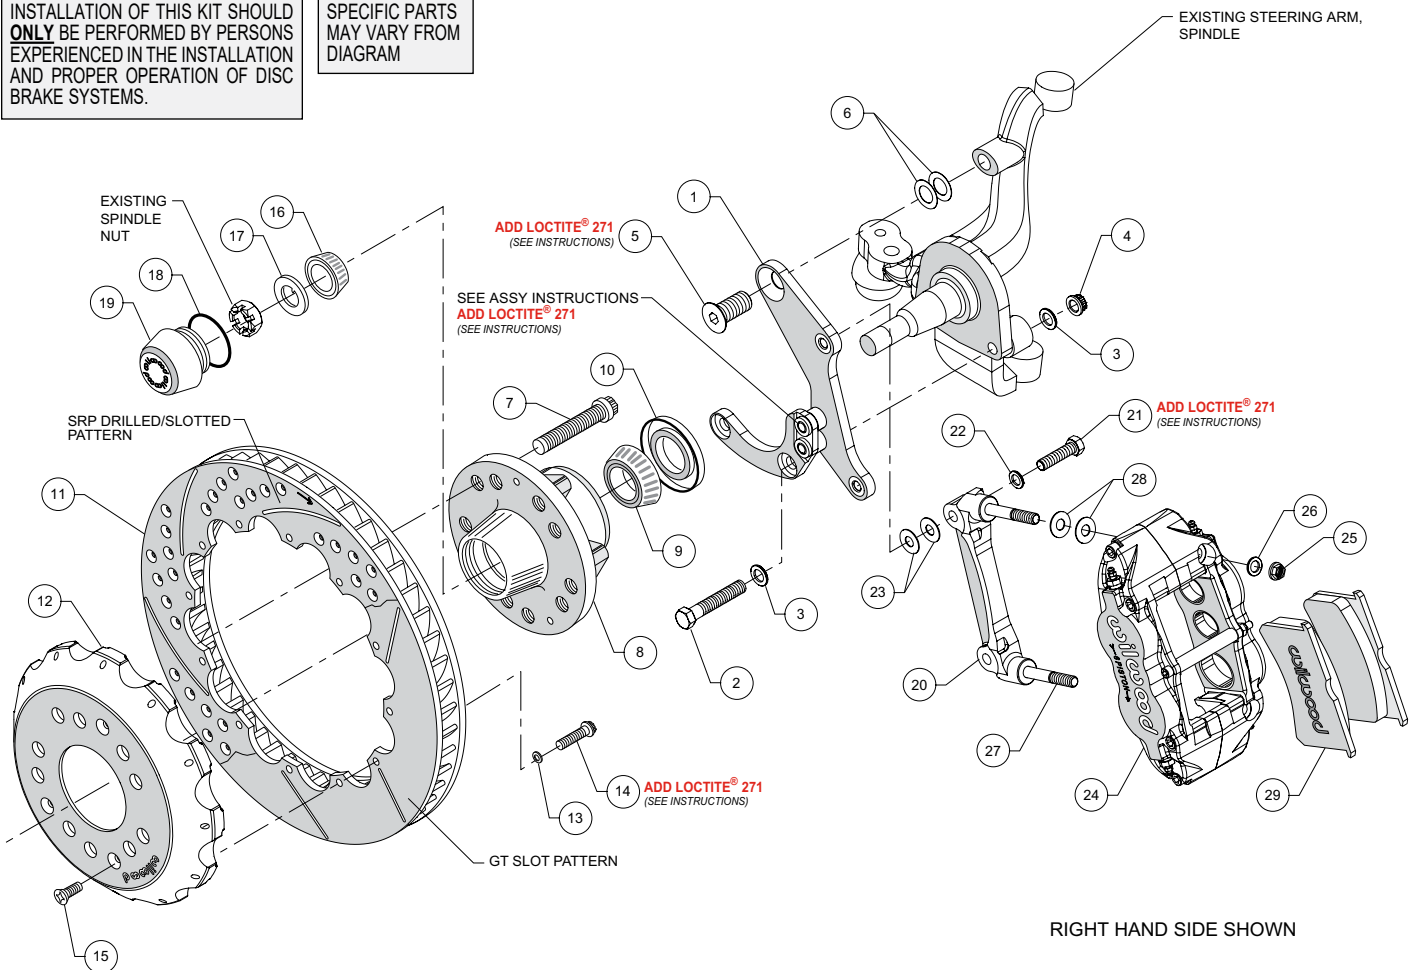
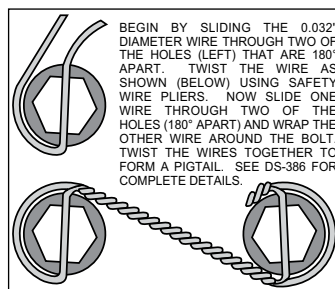
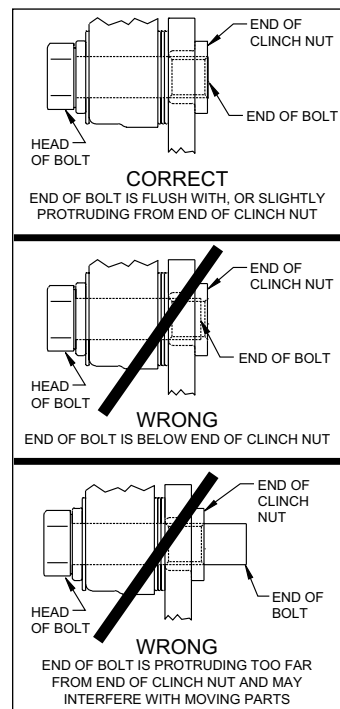

Figure 1. Typical Installation Configuration
Figure 3. Safety Wire Diagram
Figure 4. Clinch Nut Engagement Diagram
Assembly Instructions (numbers in parenthesis refer to the parts list and Figure 1 on the preceding pages): **CAUTION:** All mounting bolts must fully engage clinch nuts. Be sure to check that all bolts are either flush or protruding through flanged side of clinch nut after shimming, Figure 4.
- The spindle bracket (1) has been assembled at the factory for alignment purposes. Loosen the two bolts that secure the brackets together so that the bolts are hand tight only. This will enable the bracket assembly to be adjusted to accommodate various spindle tolerances during assembly. Align bracket with the two lower holes on the spindle face and attach using bolts (2), washers (3), and secure using nuts (4), as shown in Figure 1 and Photo 1. Install bolt (5) through top of bracket while placing shims (6) between bracket and spindle, Figure 1. Initially use two .024" thick shims (6) on the top bolt between the bracket and upright. Temporarily tighten the mounting bolts. Ensure that the flanged heads of the clinch nuts in the bracket are facing outboard, Photo 1. **NOTE:** The bracket must fit squarely against the mounting points on the spindle. Inspect for interference from casting irregularities, machining ridges, burrs, etc. Some spindles may require a small amount of grinding to clear the bracket assembly in the area of the bracket-to-bracket spacers.
- Check that the bracket is aligned parallel to the rotor by assembling and installing the hub/rotor per the step below. If not, adjust by adding or subtracting shims (6) between the spindle and bracket, Figure 1.
- Install wheel studs (7) into the hub (8), Photo 2. Torque to 77 ft-lb. **NOTE:** There are two five lug patterns in the hub (5 x 4.50 and 5 x 4.75). Ensure the correct hub stud pattern is being used to fit the wheel application.
- Pack the large inner bearing cone (9) with high temperature disc brake bearing grease (available from your local auto parts store) and install into the backside of the hub (8), Photo 3.
- Install the grease seal (10) by pressing into the backside of the hub (8), flush with the end of the hub, Photo 3.
- Orient the rotor (11) and the hat (12) as shown in Figure 1 and Photo 4. Attach rotor to hat using bolts (14) and washers (13). Apply red *Loctite*® 271 to the bolt threads and torque to 155 in-lb using a criss-cross pattern. For an added measure of security, the bolts may be safety wired using standard 0.032 inch diameter stainless steel safety wire as shown in Figure 3. Refer to Wilwood's data sheet DS-386 (available at www.wilwood.com/Pdf/DataSheets/ds386.pdf) for complete safety wire installation instructions.
- Slide the hat/rotor assembly (11/12) onto the hub (8) taking care to align the small countersunk holes in the hat (12) with the small threaded holes in the hub. **NOTE:** The hat must fit flush against the hub face or excessive rotor run out may result. Install three flat head screws (15) through the small holes in the hat, Photo 6, and torque to 85 in-lb.
- The caliper mount bracket (20) should initially be installed with clean, dry threads on the mounting bolts. Orient the bracket as shown in Figure 1 and Photo 7, and install using bolts (21) and washers (22). Initially place two .035" thick shims (23) on each bolt between the bracket and the spindle bracket (1), Figure 1. Temporarily tighten the mounting bolts. Later, after the caliper alignment has been checked, the mount bolts will be secured using red *Loctite*® 271.
- **NOTE:** This kit contains distinct right and left hand calipers that must be mounted in a specific direction, as described below. Initially place two .035" thick shims (28) on each stud (27) between the caliper and the bracket, as shown in Figure 1 and Photo 8. Mount the caliper (24) onto the bracket (27) using lock nuts (25) and washers (26), Figure 1. Ensure that the caliper is mounted so the largest pistons are at the rotor exit end of the caliper, in relation to the direction of rotor rotation. Temporarily tighten the lock nuts and view the rotor through the top opening of the caliper. The rotor should be centered in the caliper, Photo 9. If not, adjust by adding or subtracting shims (23) between the spindle bracket (1) and the caliper bracket. Always use the same amount of shims on each of the two mounting bolts. **NOTE:** The end of each bolt must be flush with or slightly protruding from the head of the clinch nut, as shown in Figure 4. If necessary place spare shims between washer (22) and caliper mounting bracket to achieve the proper clinch nut engagement. Once the caliper alignment and clinch nut engagement are correct, remove the bolts one at a time, apply red *Loctite*® 271 to the threads, and torque to 40 ft-lb.